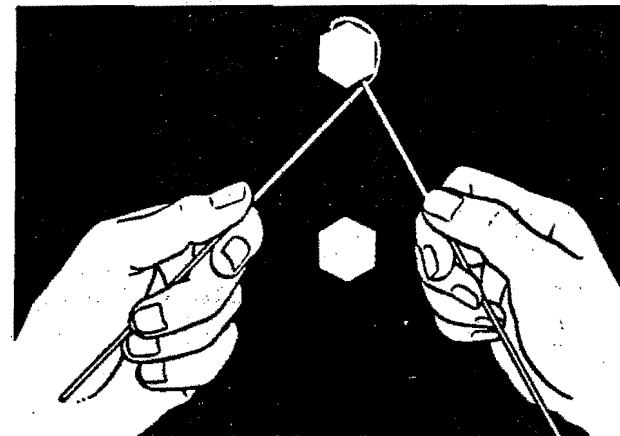

Figure 7-3. Position of Wire After Bending
b. Grasp the left end of the wire the fingers and bend it clockwise around the head of the bolt and under the other end of the wire [Figure 7-3].